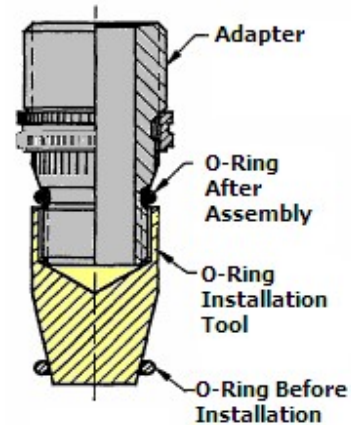

FIGURE 1
2. Place the O-Ring Installation Tool over the port end thread of the adapter. Submerge the tool and O-Ring in the fluid to be used in the working system, or a lubricant compatible with the system fluid. Slide the O-Ring over the tool and onto the adapter. Insure that the O-Ring is not twisted and is properly seated in the groove of the adapter. See figure 1.